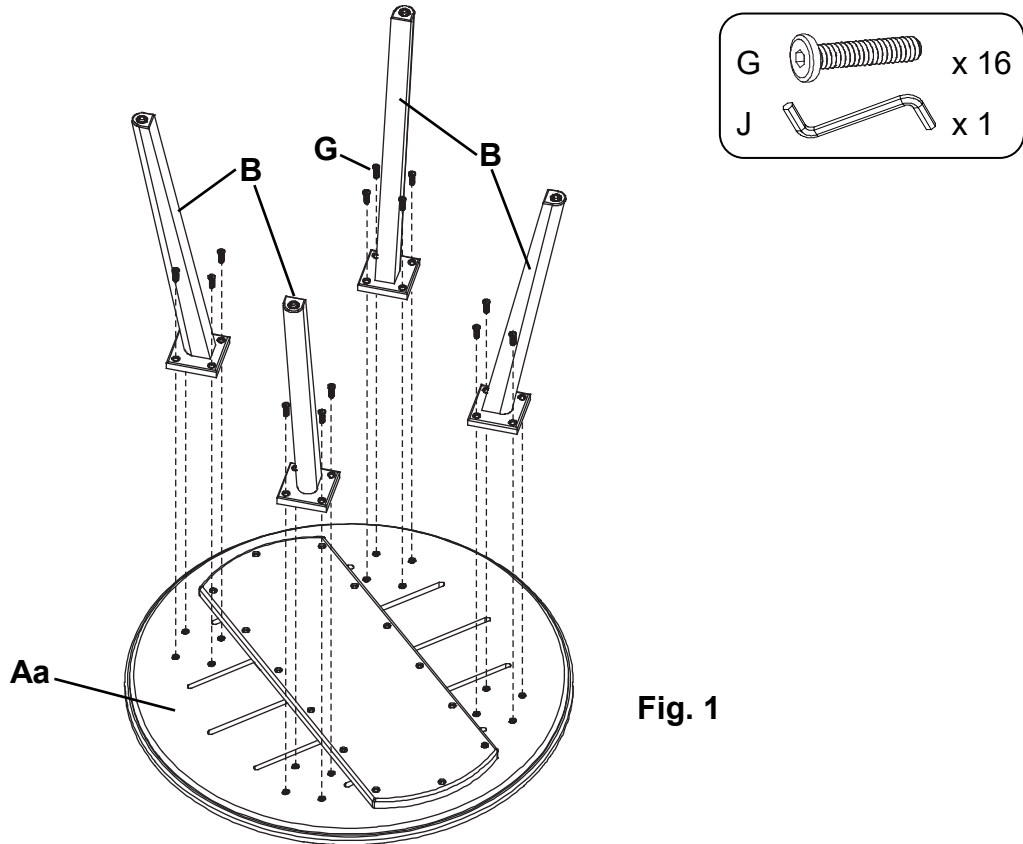

Fig. 1
1. Turn the Top Assembly (Aa) upside-down on a clean, protected surface. Attach four Legs (B) to the Top Assembly (Aa) with sixteen 5/16" x 30mm Hex Bolts (G). See Figure 1.